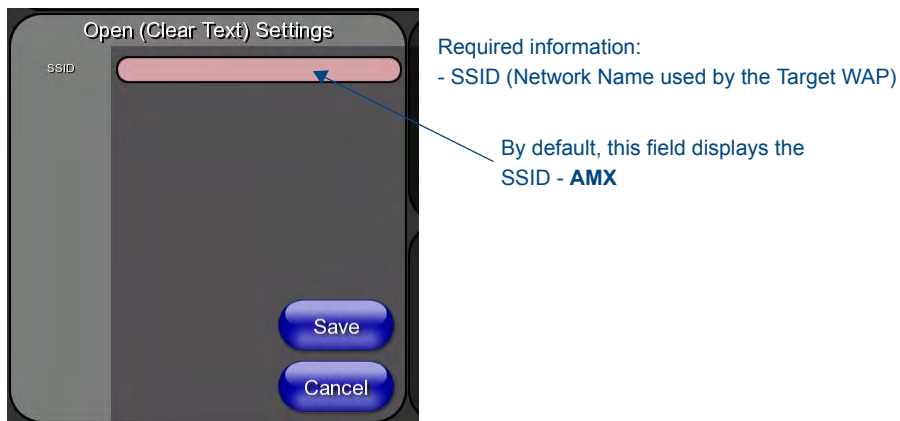

FIG. 19 Wireless Settings page - Open (Clear Text) security method
3. From within the *Wireless Security* section, press the **Open (Clear Text)** button to open the *Open (Clear Text) Settings* dialog (FIG. 19). An Open security method does not utilize any encryption methodology, but does require that an alpha-numeric SSID be entered. This method sends out network packets as unencrypted text.
7. From the *Open (Clear Text) Settings* page (FIG. 19), press the **Save** button to incorporate the new information into the device and begin the communication process.